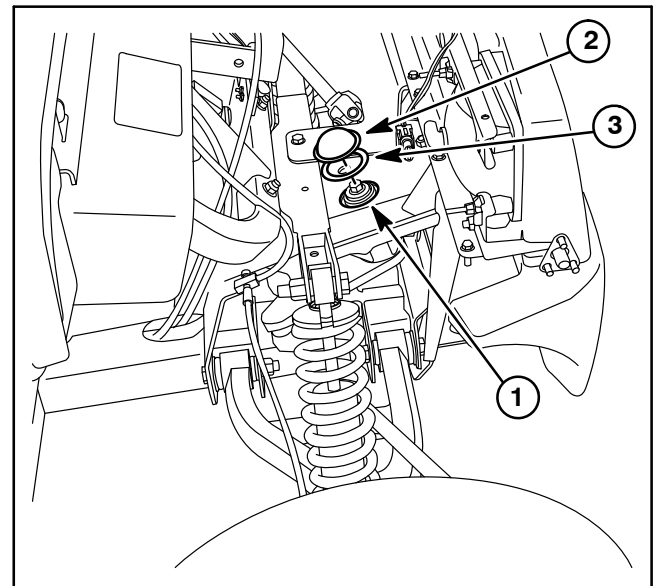

Figure 9
5. Support steering column to prevent it from falling. Remove four (4) flange nuts and carriage screws securing the steering column to the mounting plate on the frame.
6. Remove dust cover (item 13) from the steering shaft. Replace cover if damaged. Slide steering shaft out of the steering column.
8. Remove four (4) cap screws and lock washers that secure the steering gearbox to the tower plate on the front frame. Remove gearbox from the tower plate.
9. Inspect the cover above the location of the gearbox Pitman arm (Fig. 9). Make sure that the cover is secure to the frame. If necessary, remove cover, thoroughly clean frame and secure cover with new adhesive gasket.